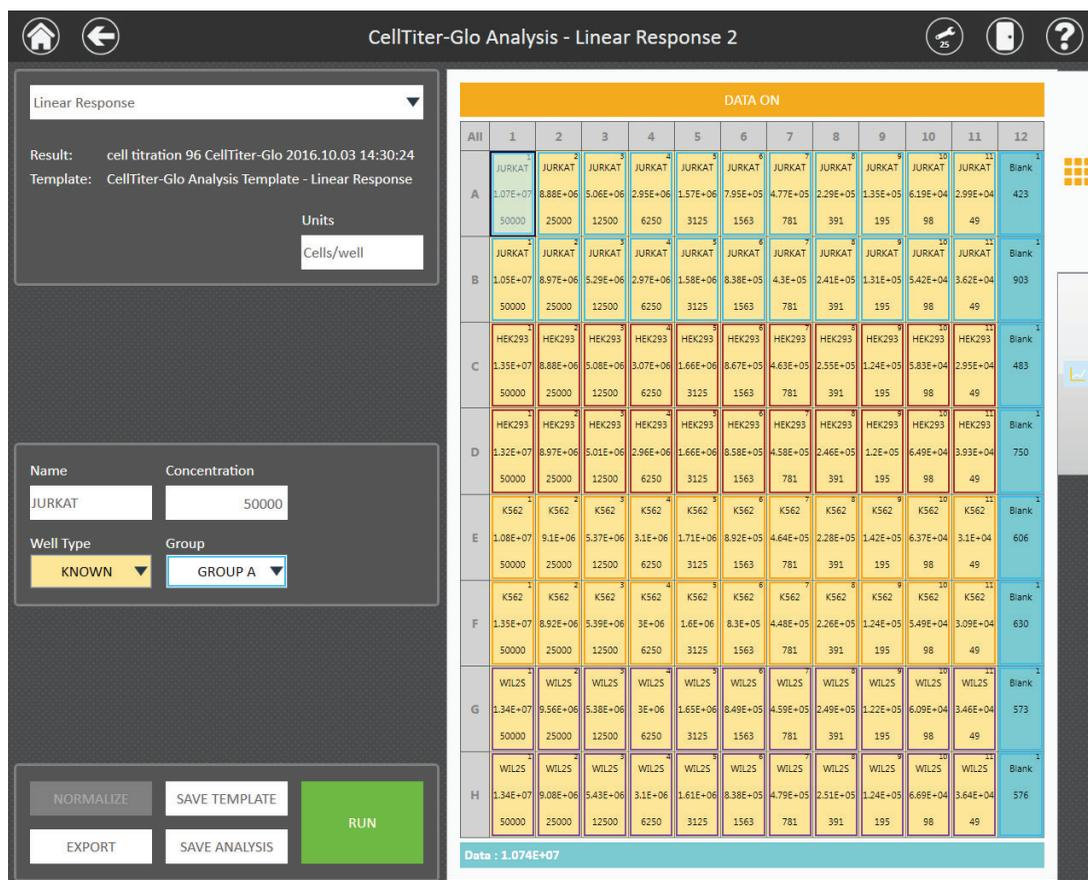

Figure 71. Once a template has been applied to the data, touch the Run button to analyze the results.
- Once a template has been assigned to the result file, touch the green **Run** button near the bottom of the left side of the screen to perform the analysis of samples (Figure 71). When the analysis is completed, an “Analysis has successfully completed” message will appear on the screen. Select **OK** to view the analyzed results.
Data from the plate read will be populated in the center of the wells on the plate map. To view results of a single-read analysis, toggle the data displayed in the wells of the plate using the **Data On/Off** button at the top of the screen (Figure 71).